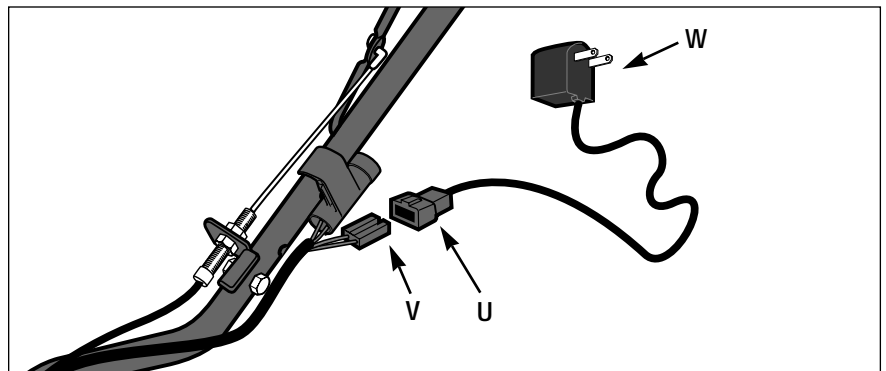

Figure 2-7
2. Connect the small plug (U, Figure 2-7) on the battery recharger cord to the wire harness plug (V) located near the keyswitch. Then, plug the charger box (W) into a grounded, 120V wall outlet.
3. Charge the battery for 24 hours. After charging, first unplug the charger box (W) from the wall outlet, then disconnect the recharging line plugs (U and V).